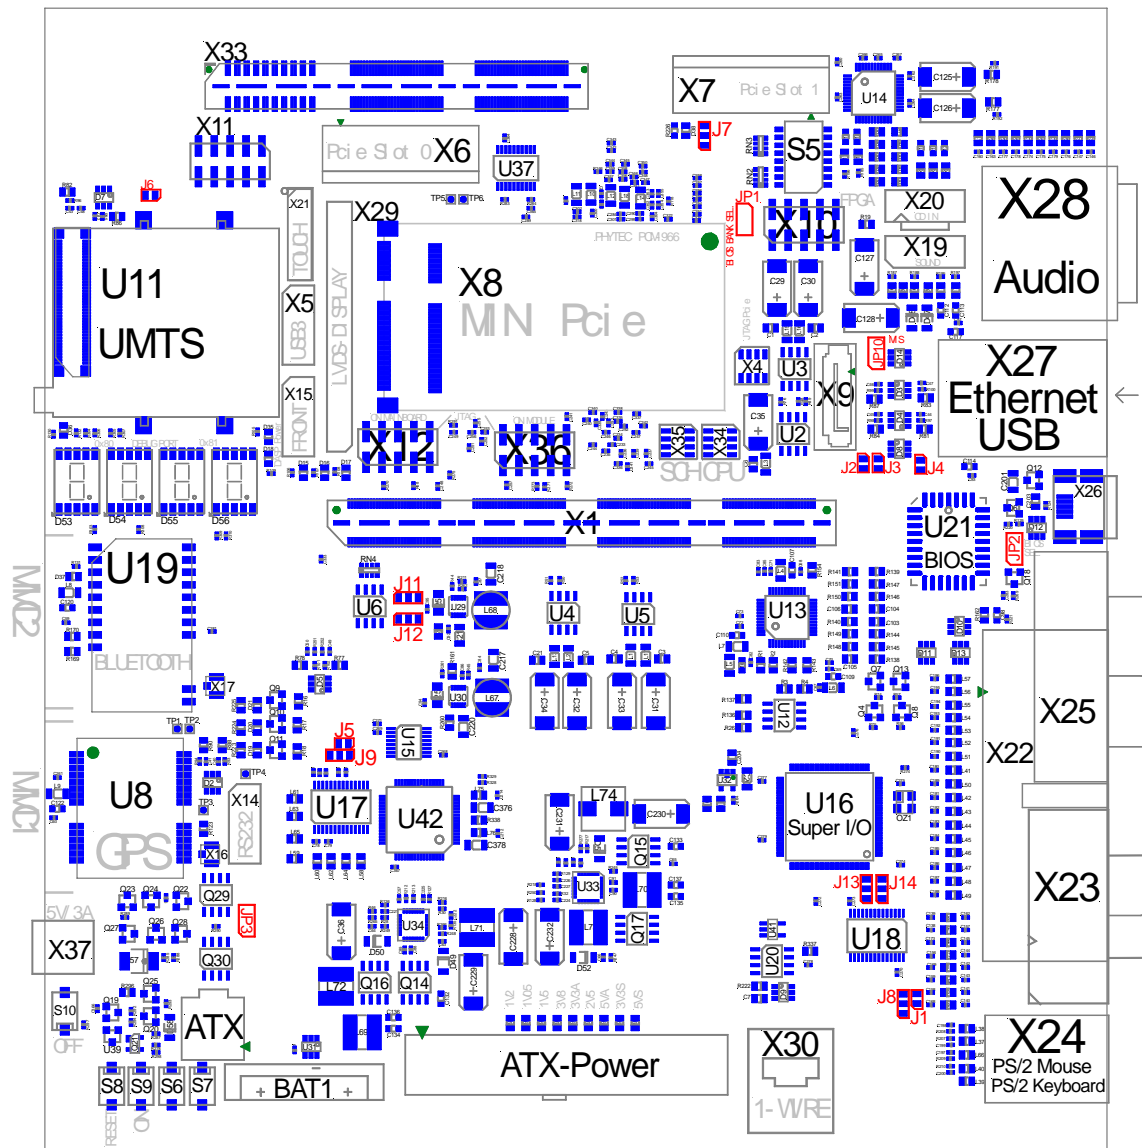

Figure 11: Carrier Board jumper location
*Figure 10* illustrates the numbering scheme for various jumper blocks. Note that in each case pin 1 is always marked with a clipped corner on the PCB silk screen. *Figure 11* highlights the locations of all user configurable jumpers on the phyCORE-Z500P(T) Carrier Board.